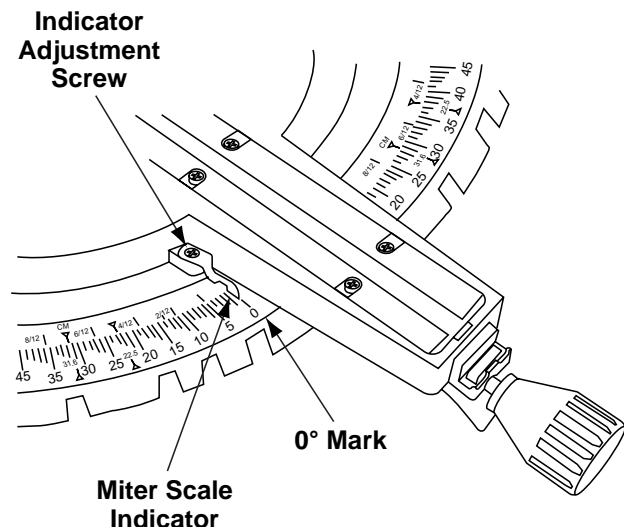

Figure 12. Miter Scale Adjustment
3. Loosen the Phillips screw that holds the indicator in place (Figure 12).